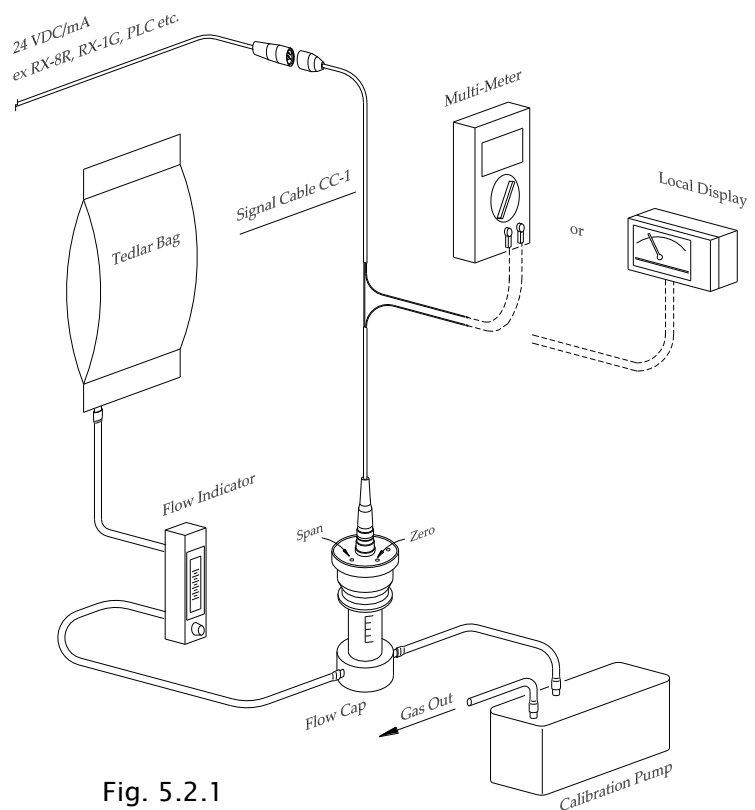
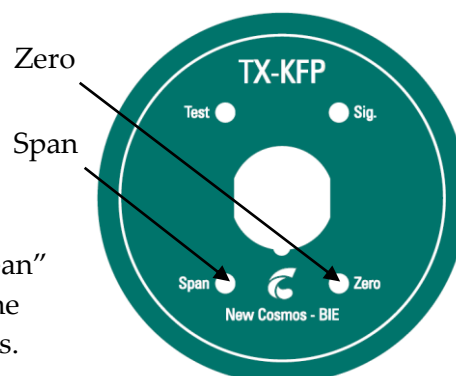

Fig. 5.2.1
Fig. 5.2.2
- Assemble the "Tedlar" bag, flow-indicator, flow cap and calibration pump as shown in fig. 5.2.1 (use PTFE tubing to connect the items).
- 1 - When the system is still exposed to the environmental air, use the “Zero” potentiometer on the TX-KFP unit to adjust the read-out of the local indicator to zero. (see fig. 5.2.2).
- 2 - Place the TX-KFP unit into the flow cap and switch on the calibration pump (see fig. 5.2.1). Use the “Span” potentiometer to set the local indicator reading to the gas concentration level of the applied calibration gas. (see fig. 5.2.2).
- 1 - When the system is still exposed to the environmental air, use the “Zero” potentiometer on the TX-KFP unit to adjust the read-out on the multi-meter to 4 mA, (see fig. 5.2.2).
- 2 - Place the TX-KFP unit into the flow cap and switch on the calibration pump (see fig. 5.2.1). Use the “Span” potentiometer to set the multi-meter reading to the gas concentration level of the applied calibration gas.